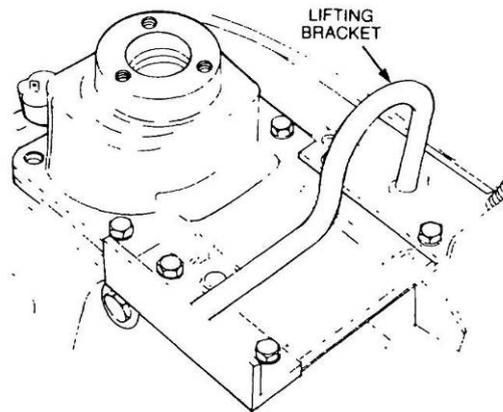

Figure 55 Transmission Lifting Bracket
- j. Secure the special lifting bracket RO1001 to the transmission with the bolts from the transfer case selector lever (Figure 55).